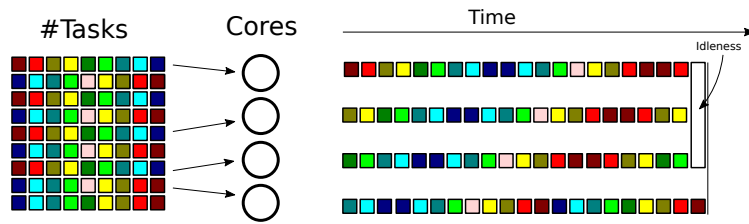
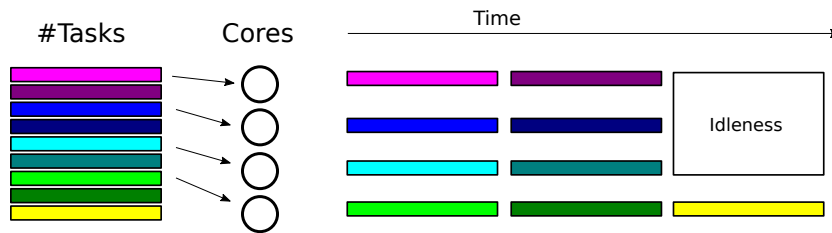

Figure 1: Fine-Grained schedule (FG)
Figure 2: Coarse-Grained schedule (CG)
Suppose we have a 9x9 matrix multiplication that is to be computed in parallel. To do that, the computation is decomposed into tasks with the two granularities shown in Figure 1 (Fine-Grained (FG)) and Figure 2 (Coarse-Grained (CG)).
- (c) For Figure 1 and the matrix multiplication problem described above, what is the expected execution time with and without scheduling overhead?
- (d) For Figure 2 and the matrix multiplication problem described above, what is the expected execution time with and without scheduling overhead?